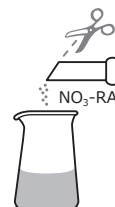

Fig.1
1. Fill a beaker with 30 mL of sample, add Pretreatment Reagent for Nitrate (NO3-RA) in the sample, and stir the sample 5 to 6 times. (Fig.1)